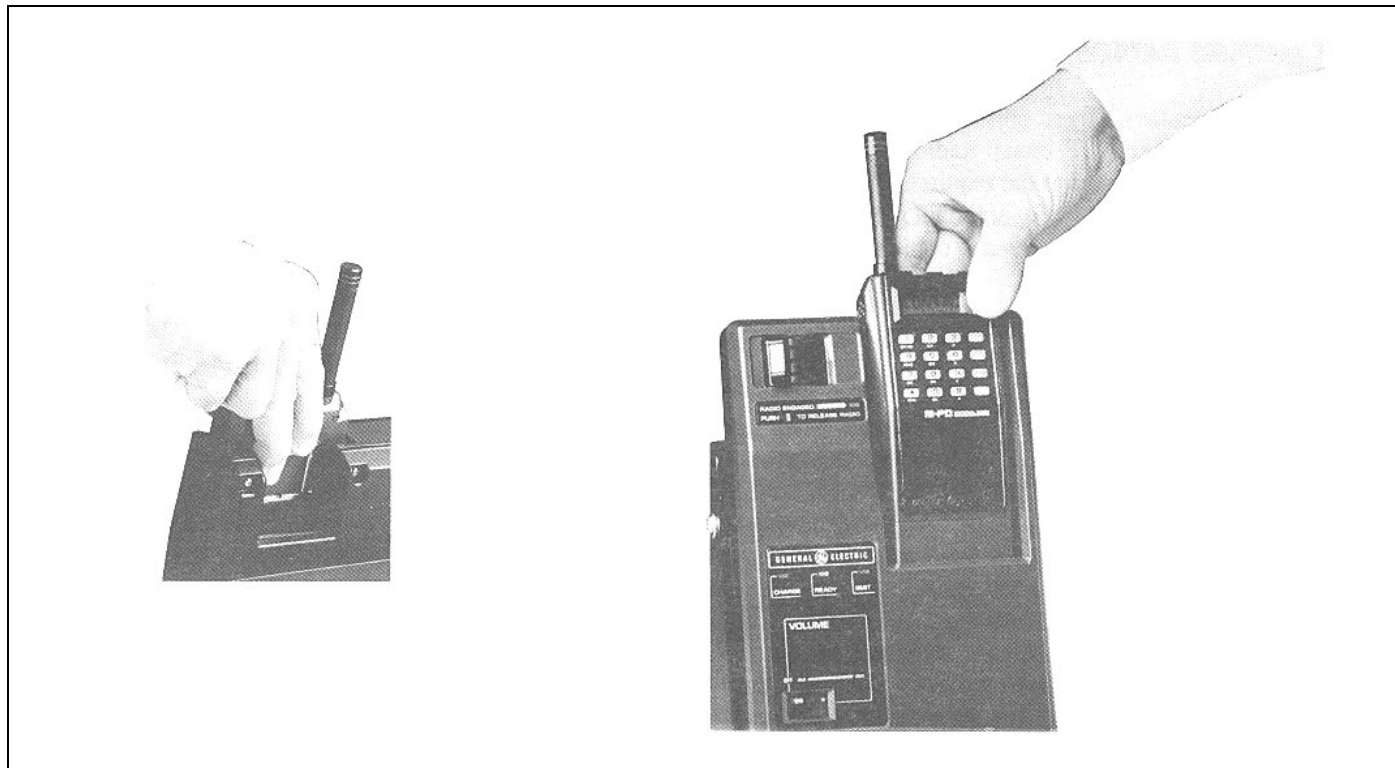

Figure 2 - Inserting And Removing Portable Radio Unit
2. Insert portable radio unit into charging compartment with its speaker facing outward (see Figure 2.).
4. Remove the portable radio unit from the charger compartment as shown in Figure 2.
7. To remove the portable radio unit from the charging compartment, press the push-button release on the POSILATCH and slide the latch away from the portable radio unit. The red RADIO ENGAGED indicator will turn off and the portable radio unit can be removed from the charging compartment (see Figure 2.).